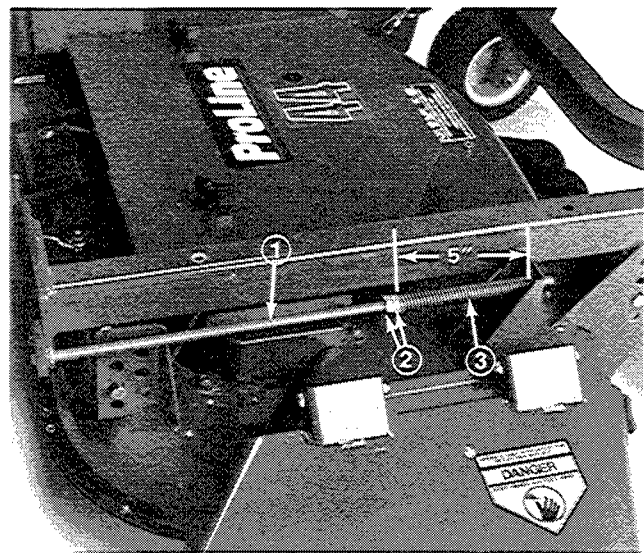

Figure 18
3. Loosen jam nuts on each adjusting shaft and remove engine to deck drive belt (Fig. 18).
6. Install belt to clutch and drive pulley (Fig. 18).
7. Tighten jam nuts on adjusting shafts until springs are compressed to a length of 5 in. measured between bracket and jam nuts (Fig. 18).